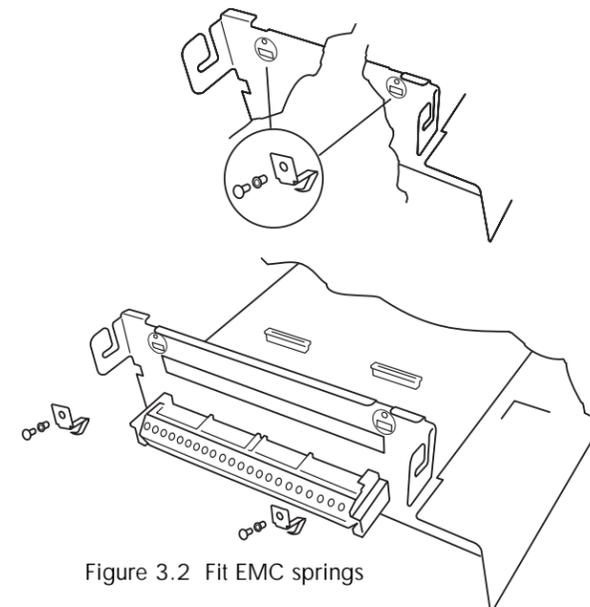

Figure 3.2 Fit EMC springs
3. Fit an EMC spring at each end of the connector, and secure with plastic rivets supplied with the kit, as shown in figure 3.2.